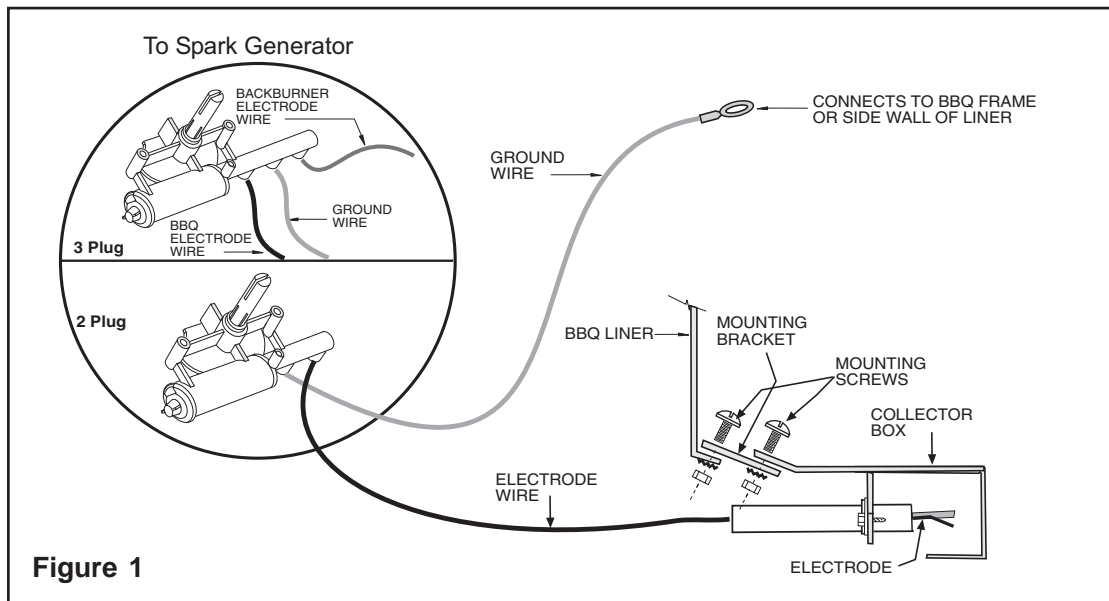

Figure 1
5. Attach the new electrode collector box assembly to the barbecue liner with the screws and nuts provided as shown in Figure 1.
6. If the mounting bracket is not attached to the barbecue liner as illustrated in Figure 1, bend the old electrode out of the way and remove the adjusting screw from the mounting bracket at the top of the old collector box assembly. Attach the new collector box and electrode to the old mounting bracket with the adjusting screw (Figure 1).